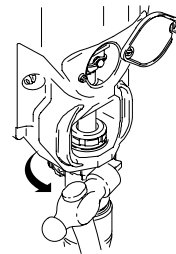

Fig. 13
6. Fig. 13. Screw jam nut (12) up onto pump until nut stops. Tighten jam nut by hand, then tap 1/8 to 1/4 turn with a 20 oz (maximum) hammer to approximately 75  $\square$  5 ft-lb (102 N·m).